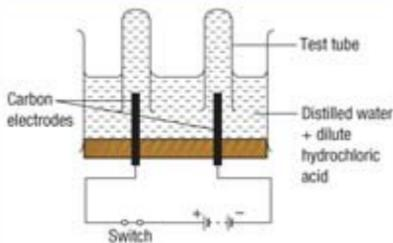

Figure 6.1 Electrolytic cell
In Form 2, you studied about electrolysis that is used to determine the composition of elements in water molecules using an **electrolytic cell** (Figure 6.1).
**Electrolysis** is the decomposition of a compound in the molten or aqueous state into its constituent elements when electric current flows through it. What are the decomposed compound and constituent elements produced in the electrolysis process (Figure 6.1)?
2. Draw and label the electrolytic cell in Figure 6.1. The parts that need to be labelled include: